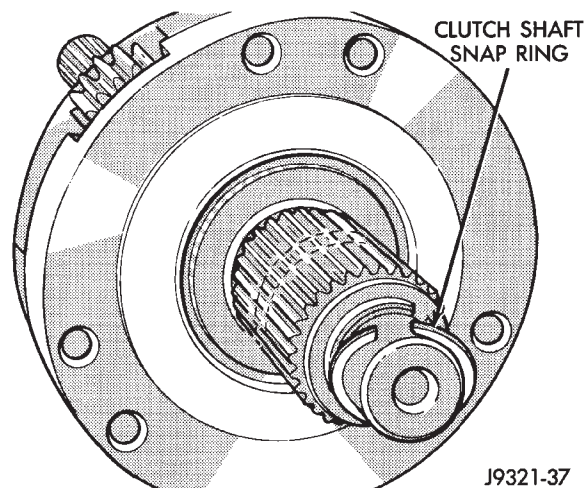

Fig. 37 Removing Clutch Shaft Snap Ring
(1) Remove clutch shaft snap ring (Fig. 37).